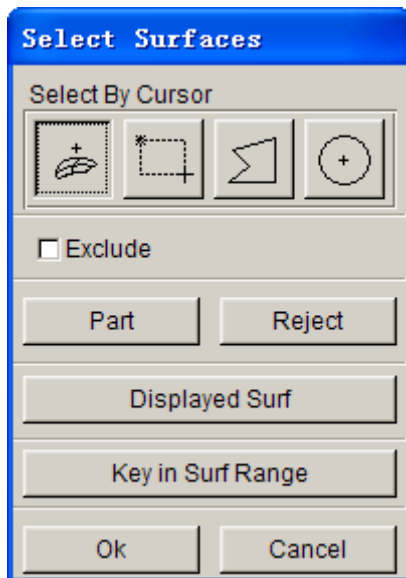

Figure 53 Select Surface dialog box
3. The **Select Surfaces** dialog box illustrated in Figure 53 is displayed.